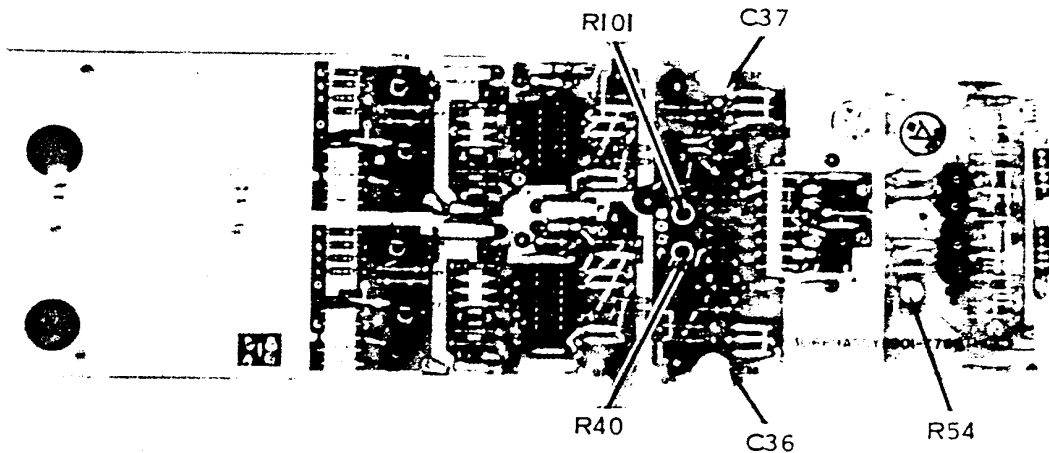

Figure 1. Vertical amplifier (subassembly 7788)
(2) Adjust A2A6R56 (fig. 1) for 0.0 volts.
- (1) Adjust A2A6R40 (fig. 1) for fastest risetime.
- (4) Adjust A2A6C36 (fig. 1) for fastest risetime with minimum overshoot.
- (6) Adjust A2A6C27 and A2A6R101 (fig. 1) for fastest risetime.
- (7) Repeat (2), (3), and (5) above for best compromise between CH1 and CH2.